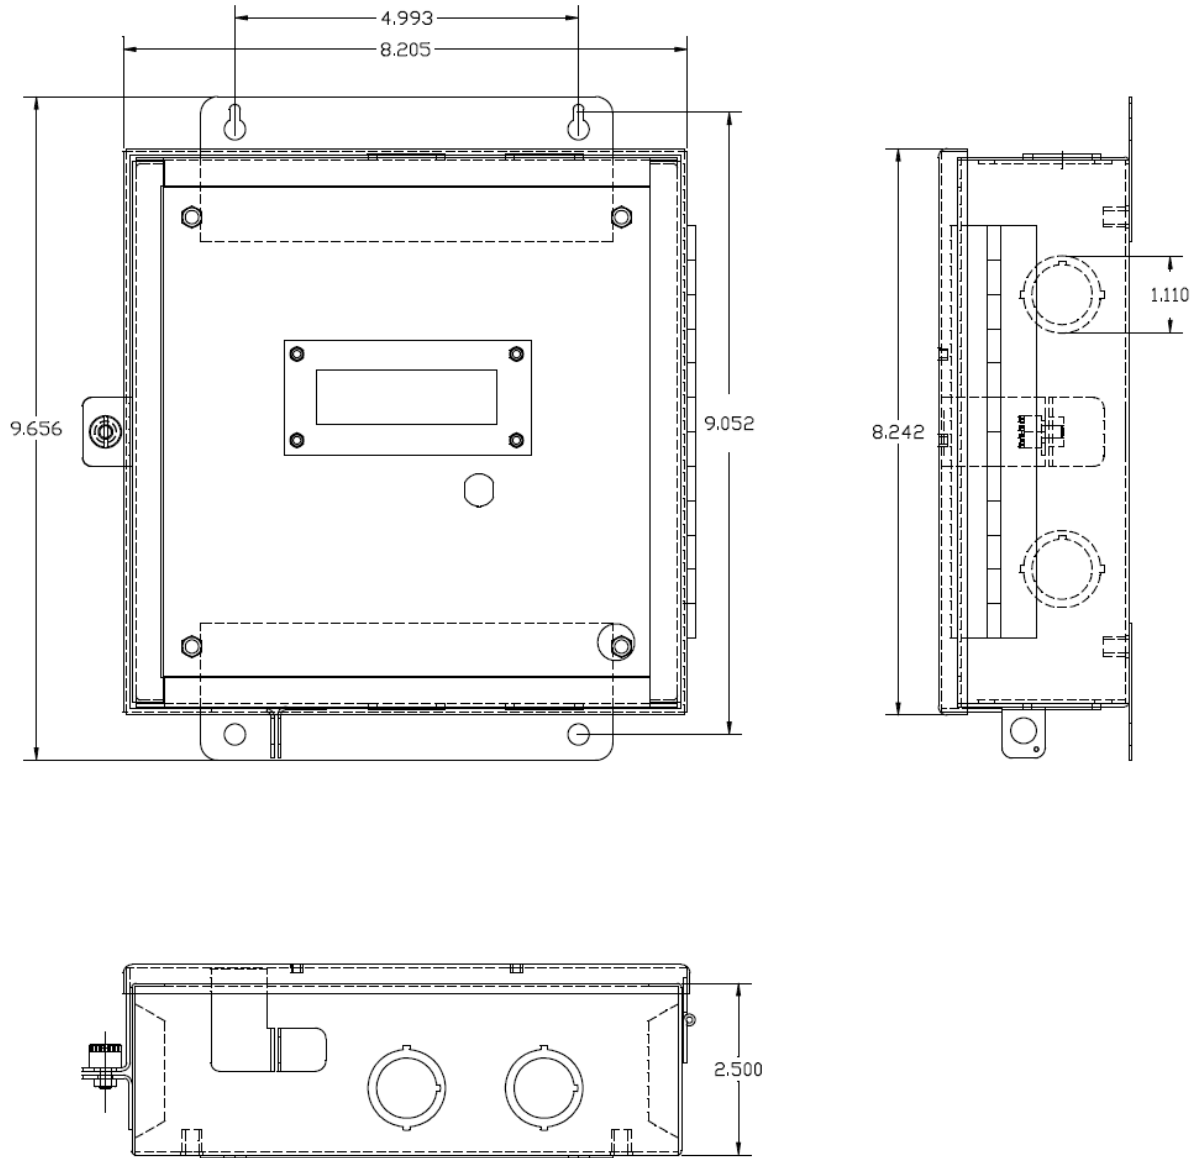

Figure 3: Series 3300/3500 Indoor Steel Enclosure Dimensions, in Inches
1. Fasten the enclosure to the selected surface using the mounting holes and appropriate screws. There are mounting holes on both top and bottom of each enclosure. See Figures 3 and 4 for mounting dimensions.